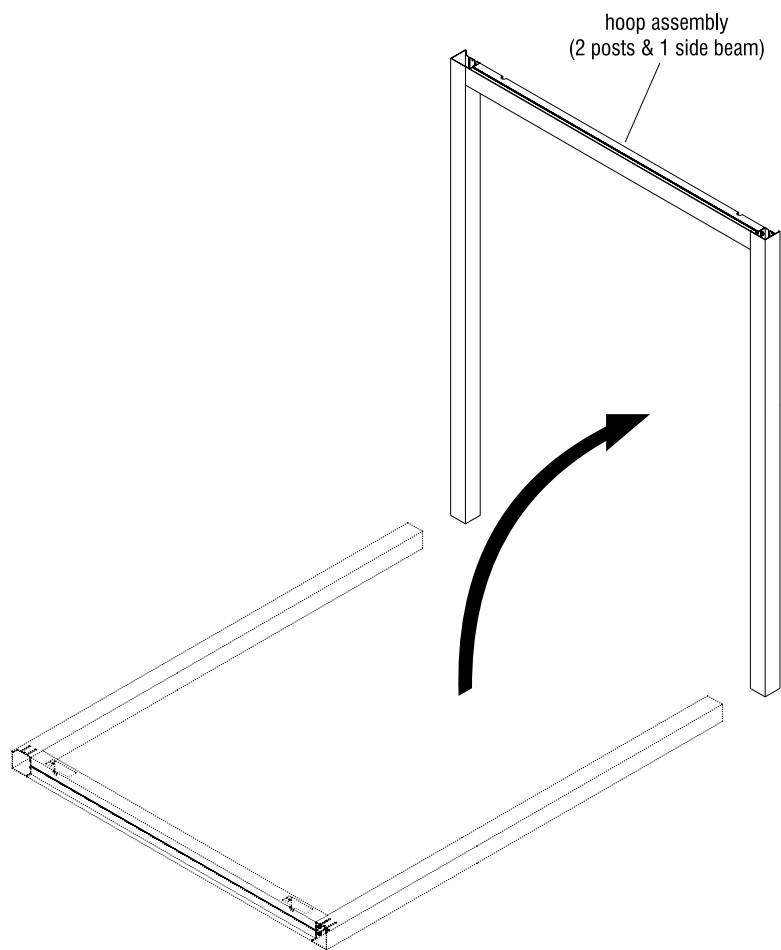

Figure 7 - Shared Room Hoop
12. Using two or more people, carefully stand two "hoop" assemblies up so that front/back beams can be attached in the next step to connect the hoops at the top. The electrical cutouts at the top of each hoop assembly post should face each other, and the hoop assemblies must be standing on their final installation location marks on the floor (Figure 7).